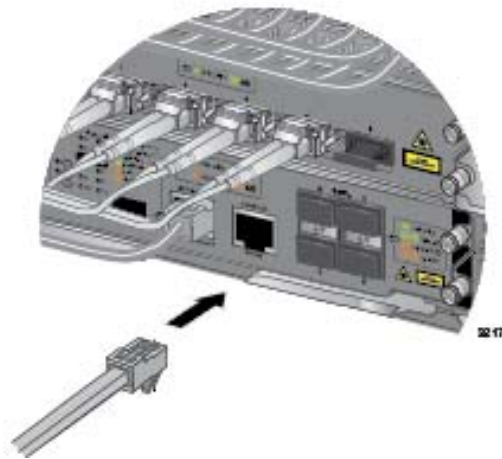

Figure 157. Connecting the Management Cable to the Console RS-232 Port
1. Connect the RJ-45 end of the management card included with the AT-SBx31CFC960 Controller Fabric Card to the Console RS-232 port on the front panel of the AT-SBx31CFC960 Card, as shown in Figure 157. If the chassis has two controller cards, you must connect the cable to the Console RS-232 port on the active card. To determine which card is the active card, examine the M/S LEDs. The LEDs are green on the active card and amber on the standby card.